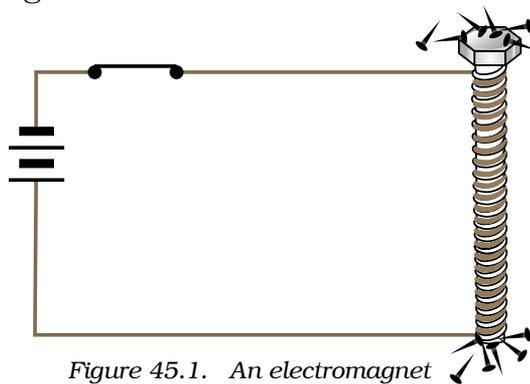

Figure 45.1. An electromagnet
3. Connect the electromagnet with 20 turns to a battery of 2 cells through a switch as shown in Fig. 45.1.